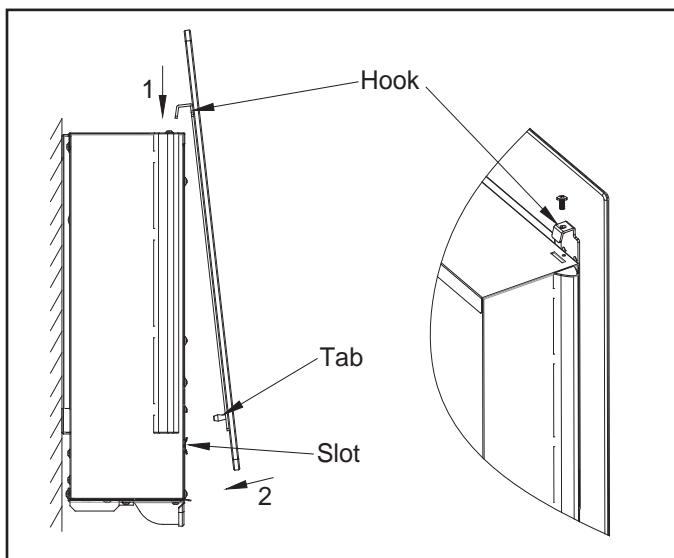

Figure 3 Attaching Front to Fireplace
- Remove the two screws located at the top of each side of the firebox. See Figure 3.
- Install glass front by setting both hooks of the front glass panel into the slots at the top front edge of the firebox as shown in Figure 3.
- Secure top glass to the firebox using two ST4 x 8 screws. See Figure 3.